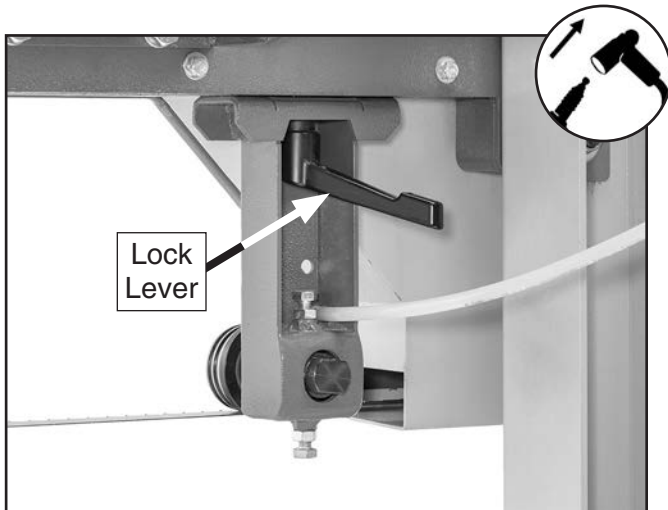

Figure 31. Left guide roller lock lever.
2. Push lock lever inward to loosen it (see **Figure 31**).
3. Push guide roller in or out until the cutting section of the blade is the correct width, then push lock lever out to secure roller guide (see **Figure 31**).